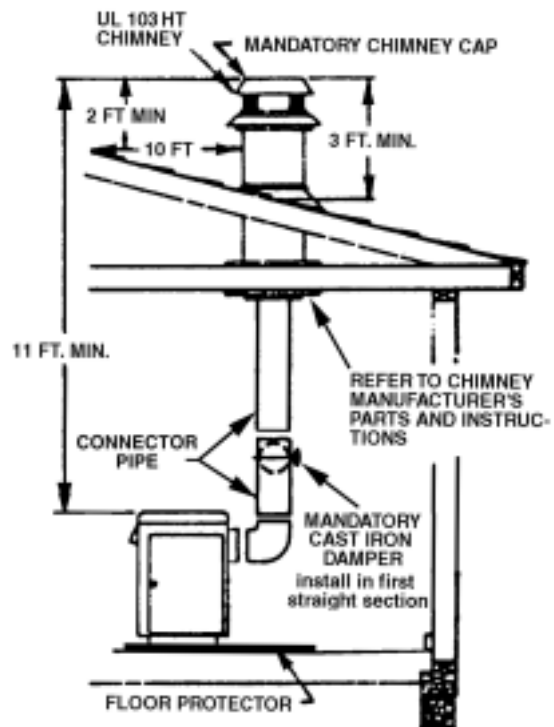

Fig. 9 - Chimney Construction Through Attic Space
Your stove itself does not create draft. Draft is provided by the chimney. To achieve proper draft your chimney must meet the three minimum height requirements detailed in figures 9–11. A minimum of 0.05 w.c. (measured in water column) is required for proper drafting to prevent back puffing, smoke spillage, and to maximize performance. (Gauges to measure draft are readily available at stove stores and are economical to rent or purchase.)
3. If the fire burns well but sometimes creates excessive smoke or burns slowly, it may be caused by the chimney top being lower than another part of the house or a nearby tree. The wind blowing over a house or tree, falls on top of the chimney like water over a dam, beating down the smoke. The top of the chimney should be at least three (3) feet above the roof and be at least two (2) feet higher than any point of the roof within ten (10) feet (see figures 9–11).